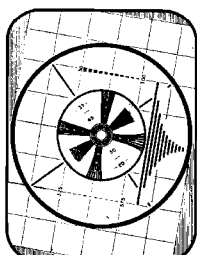

FIG. 13—TILTED PICTURE
14. **STRAIGHTENING TILTED RASTER** — If the pattern should appear on the screen in a tilted position as shown in Figure 13, loosen the deflection yoke locking screw (see Figures 4 and 11) and rotate the yoke sufficiently to correct this condition. Be sure to re-tighten the screw securely.